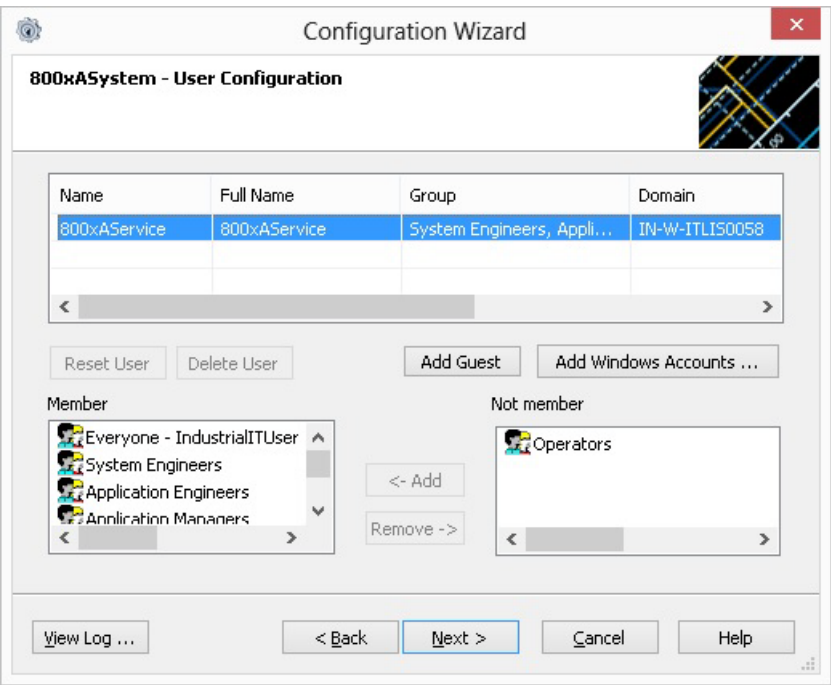

Figure 27. User Configuration Dialog Box
- 4. Select **Users**, see Figure 17. The User Configuration dialog box is displayed, see Figure 27.
4. In the User Configuration dialog box, you can select the Industrial^{IT} 800xA groups of which a Windows user must be member, see Figure 27. Select Windows user in the top window and use the **Remove** and **Add** buttons to move Industrial^{IT} 800xA groups to the **Member of** field.